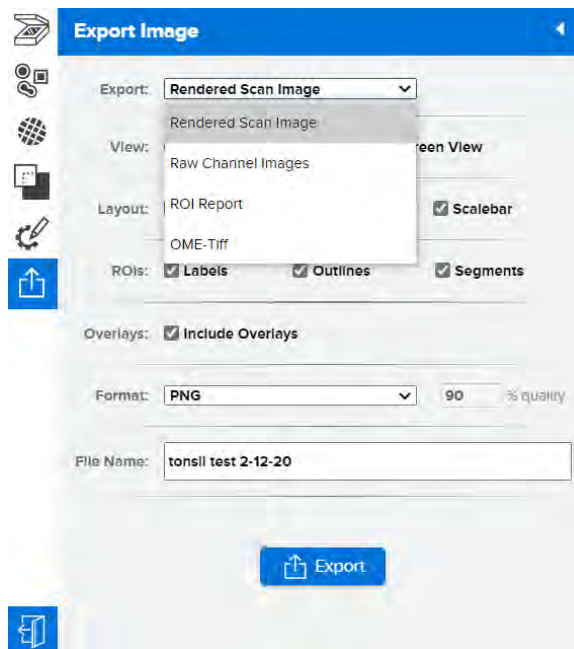

Figure 44: Export image menu - rendered scan
2. The default view is **Rendered Scan Image** (see Figure 44); choose this for a full-color publication-quality image.